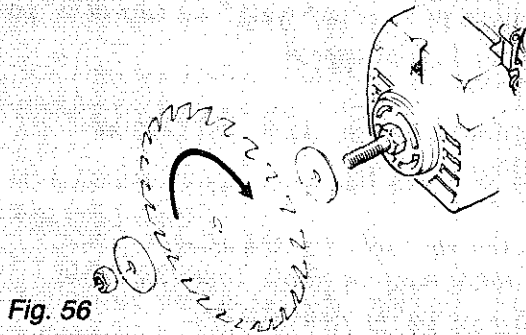

Fig. 56
2. Place the *blade* on the *arbor shaft* with a **blade collar** on each side. make sure that the directional arrow is on the outside of the *blade*, and the teeth are pointing down at the front side of the blade. (Figure 56)